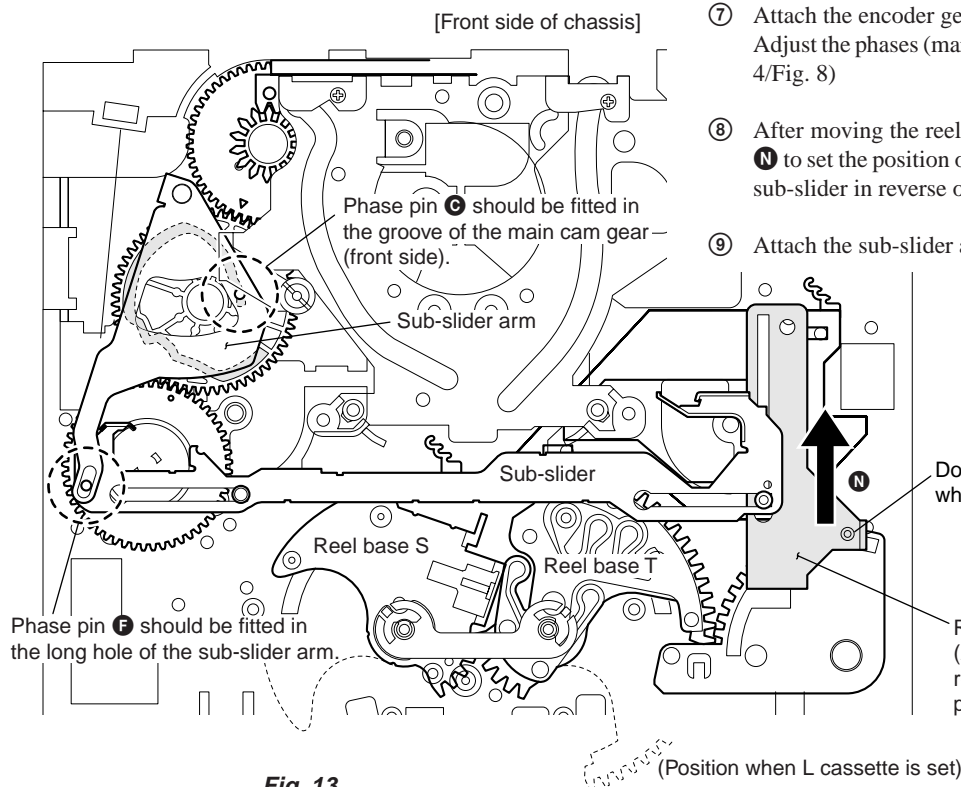

Fig. 13
- ⑧ After moving the reel selector slider in the direction of arrow N to set the position of the reel base to “L cassette”, attach the sub-slider in reverse order while referring to Fig. 3. (Fig. 13)
- ⑨ Attach the sub-slider arm. (Fig. 1/Fig. 13)